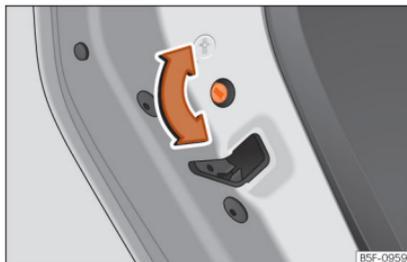

Fig. 98 Childproof lock on the left hand side door.
- With the door open, rotate the groove in the door using the ignition key, clockwise for the left hand side doors »» Fig. 98 and anti-clockwise for the right hand side doors.
- With the door open, rotate the groove in the door using the ignition key, anti-clockwise for the left hand side doors »» Fig. 98 and clockwise for the right hand side doors.